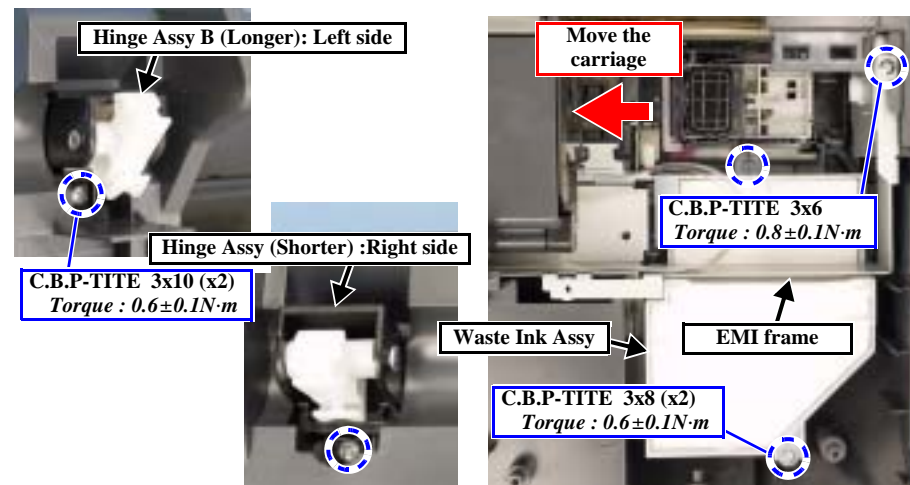

Figure 4-20. Removing the Waste Ink Assy and the Hinge Assy
5. Remove the screw, and remove the EMI Frame. (Fig. 4-20)
- In Stylus PHOTO RX560/580/590, there is a difference between the Hinge Assy to be installed on the right side and that to be installed on the left side. Be sure to install the Hinge ASSY B (longer) on the left side. (Fig. 4-20)